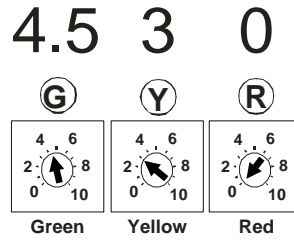
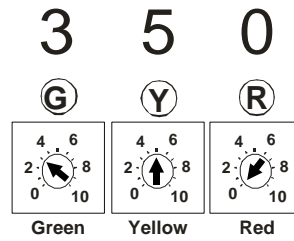

FIGURE 4
FIGURE 5
7. Remove the door from the Fi2000R module to expose the LED's. **NOTE:** The Fi2000R pot settings come preset from the factory for the VN1600 Classic, (Fig.4), for VN1600 & VN1500 Nomad owners, please adjust the Fi2000R to the base pot settings shown in (Fig. 5 or 6), prior to proceeding further. Verify the wire connections by turning the ignition on, prior to starting, and see if all three LEDs are on steady for a few seconds, and then go off. This is correct.